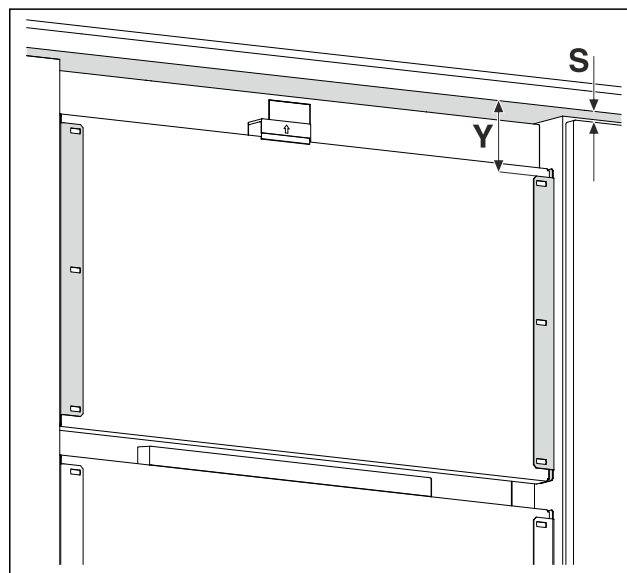

Fig. 17 Example illustration
- Measure the distance *Fig. 17 (Y)* from the bottom edge of the cabinet front to the bracket angle.
- Measure the distance *Fig. 17 (S)* from the bottom edge of the cabinet front to the top edge of the cabinet door.